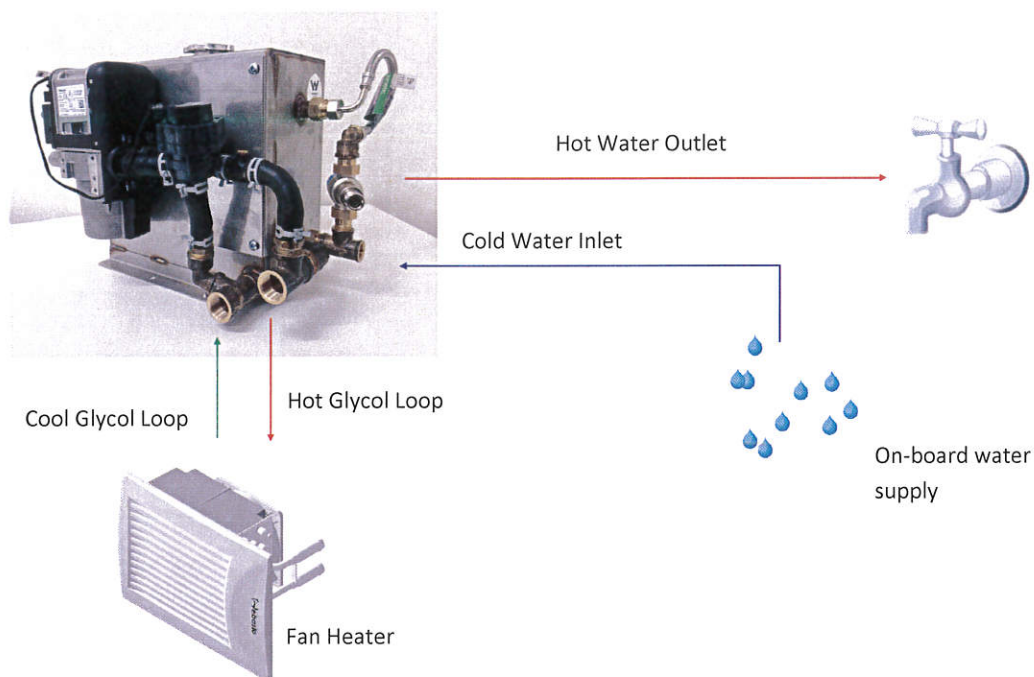
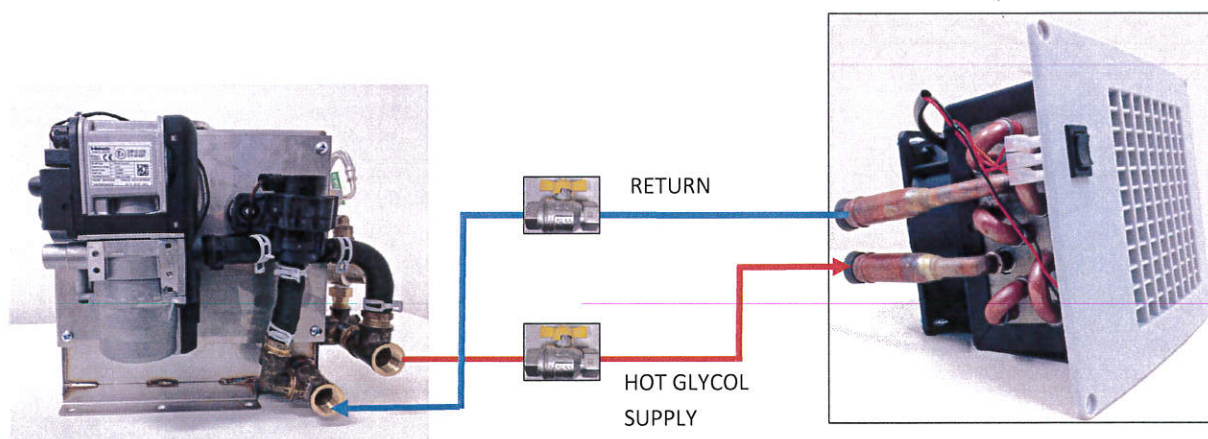

Fig 22 – Cold and hot water circuit. (Ensure that the maximum flow rate is 10L /min)
Fig 23 The kit is supplied with brass ball valves, during the summer season the ball valves can be shut off to avoid any radiant heat passing in to the cabin.
7. Now open bleed valve (Fig. 22) by screwing the brass bleed screw (Fig. 23) anti-clockwise, NOTE do not remove the bleed screw completely.